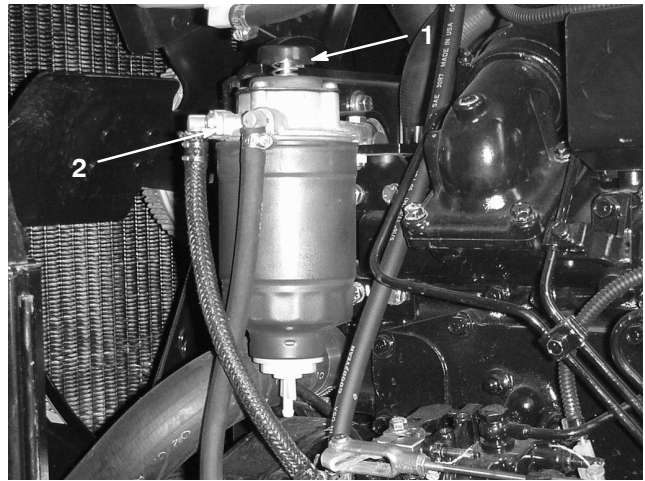

Figure 29
3. Rotate the priming pump (Fig. 29) counterclockwise until spring in pump assembly releases. Operate pump up and down until a solid stream of fuel flows out around filter plug and tighten plug.
4. Loosen the air vent plug on the fuel filter/water separator about 1-1/2 turns (Fig. 29). Operate priming pump until solid stream of fuel flows from the vent hole (Fig. 29), then tighten air vent plug.